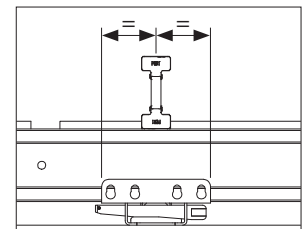

Fig. B2.07a
The Girders VT 20K (5b) must be centrally arranged over the respective Table Head TK (26). (Fig. B2.07a)